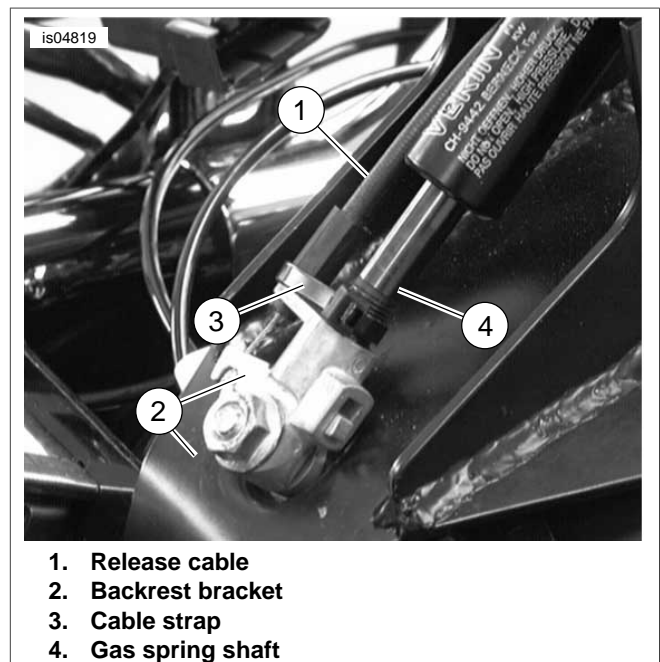

Figure 9. Attach Cable to Backrest Bracket
11. See Figure 9. Attach the release cable (1) to the backrest mounting bracket (2) as shown. Carefully secure the cable to the shaft of the gas spring (4) with the provided cable strap (3). Do not over-tighten the cable strap.